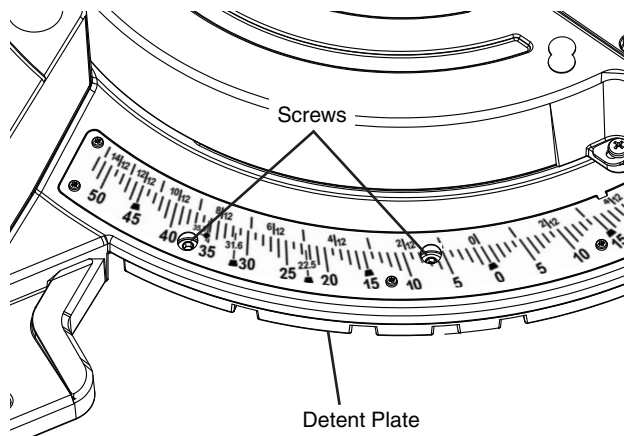

Figure 18
2. Look for four round holes in the miter scale plate. In each hole is a screw. Use the small end of the 6/4mm hex key or a 4mm hex key to loosen all four screws 1 to 2 turns. This will loosen the miter detent plate (see Figure 18).